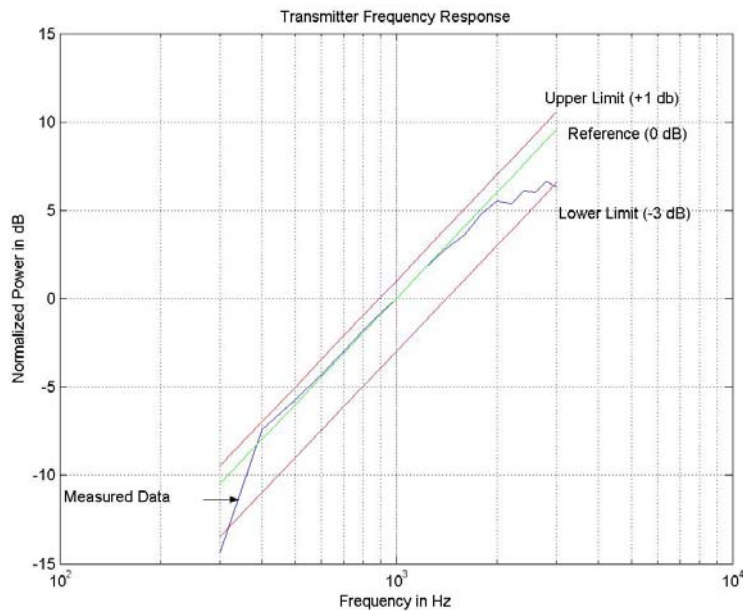

Figure 6: Transmitter Frequency Response Curve
*Pass with Exceptions.* Figure 6 shows that at about 300 Hz, the measured data dips slightly below the lower limit. Some of this behavior may be attributable to a margin of error introduced by the test equipment used to perform this measurement. However, it is more likely that the device has difficulty dealing with a baseband signal that is at a frequency of 300 Hz. The test case verified that the DVR's transmitter frequency response conforms to the vendor's specification. This test ensures that the device is transmitting signals in the audible band (300 Hz to 3 KHz) at the correct power level, which ultimately affects the quality of the audio heard by the user.